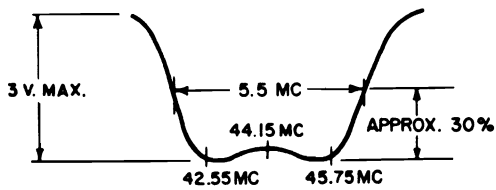

Fig. 3. Response Curve from 3rd I.F. Amplifier
3. Connect oscilloscope hot lead through 10K ohm isolation resistor to Point (C), J19. Connect ground lead of scope directly to main chassis. Connect VTVM to J19 and ground.
4. Adjust both cores of T4 to obtain wave form shown in Figure 3.